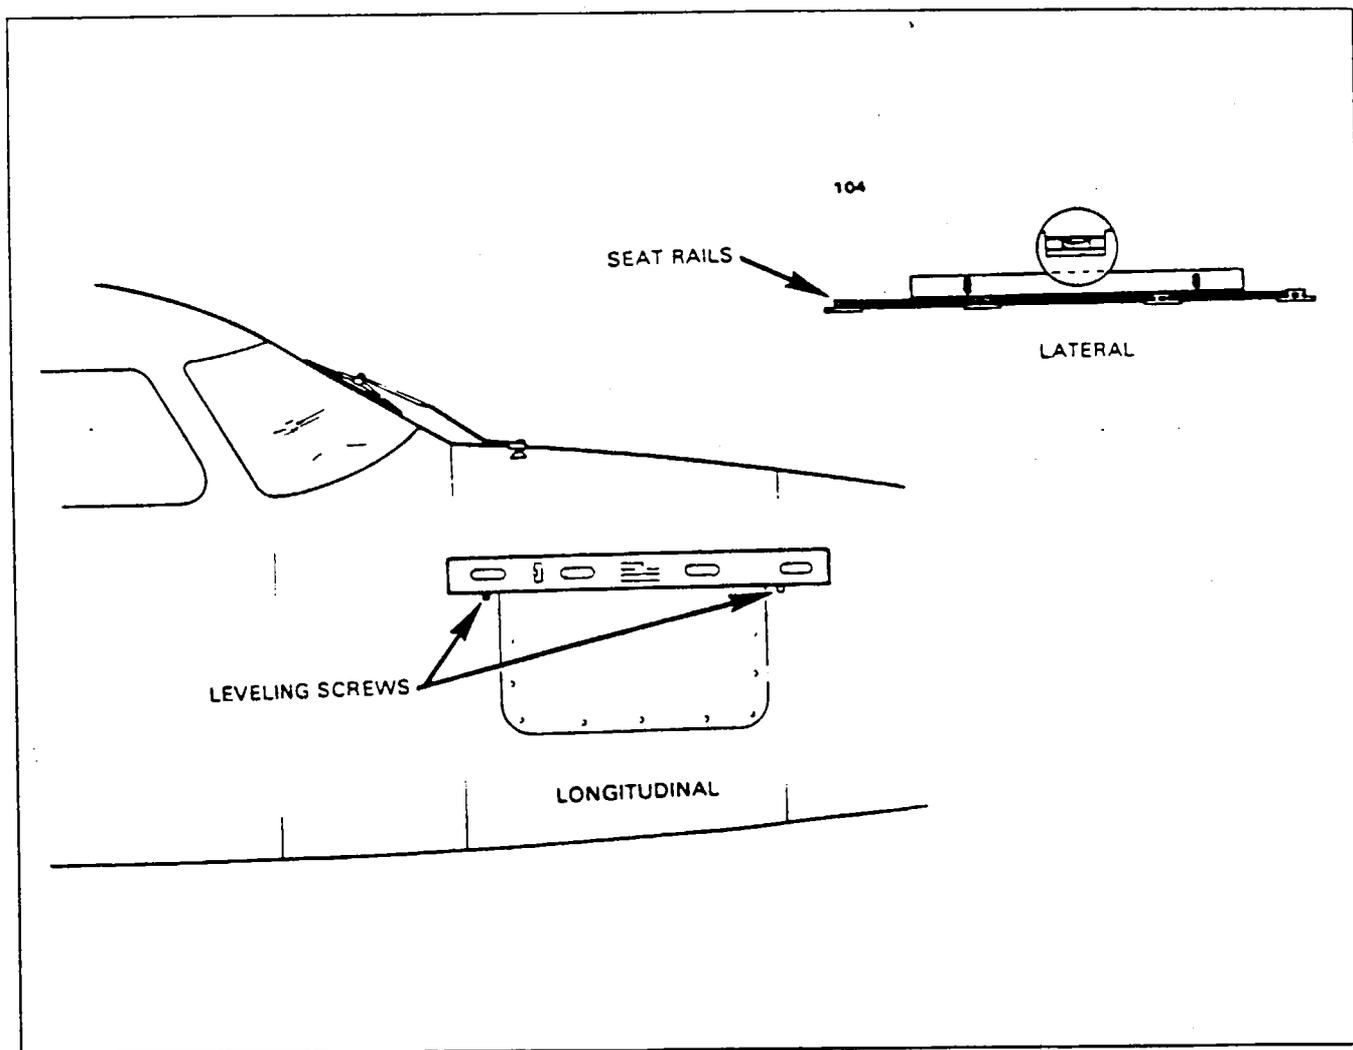

Figure 8-1. Leveling- Longitudinal and Lateral
**LEVELING.** (Refer to Figure 8-1.)